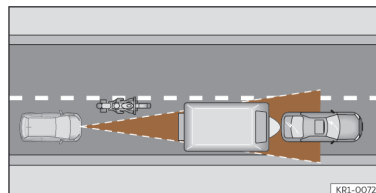

Fig. 144 Motorcyclist ahead out of range of the radar sensor.
- Vehicles that are not aligned while driving or that are outside the sensor's detection area, such as motorcycles >>> **Fig. 144.**